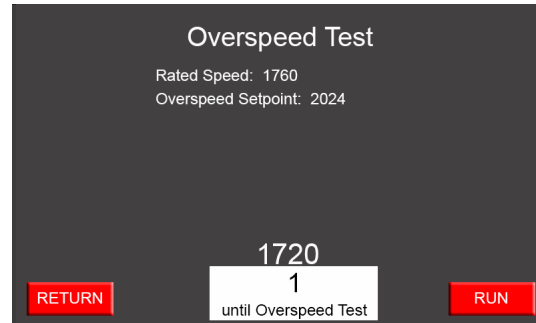
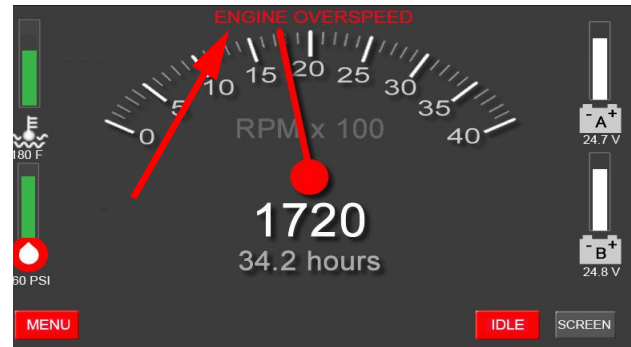

Figure 4-12 Overspeed Test timer
Figure 4-13 Overspeed Test timer expired
4. When the timer expires (shown in Figure 4-12), "ENGINE OVERSPEED" written in red will flash at the top of the FPDP screen (shown in Figure 4-13).